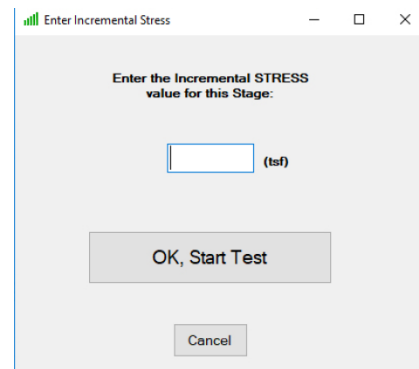

Figure 9: Incremental Stress Value for First Stage
5. Click **Start Test** and enter the incremental stress value for the first stage (Figure 9). Once entered select **OK, Start Test**, then apply the load to the sample. Readings will be displayed in real time in both tabular and graphical formats when the load is applied to the sample.